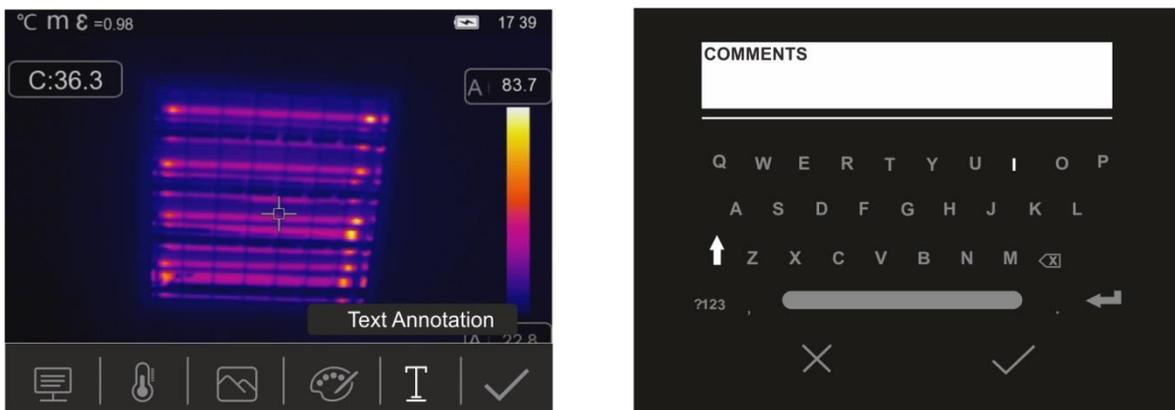

Fig. 45: Adding a text annotation to the image
4. Touch the icon “📄” to add a text annotation to the image. The screen in Fig. 45 – right side appears on the display.